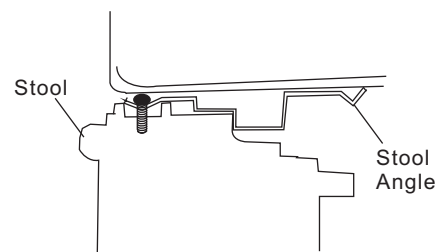

Fig.12
2. Place cabinet in window with bottom stool angle firmly seated over window stool as shown. Bring window down temporarily behind top angle to hold cabinet in place (Fig.12).
Step 2. Remark a line on the provide R1 insulation panel according to a length $1/8"$ (3mm) less than the measured width in step 1, then cut the R1 insulation panel along the line (Fig.12).